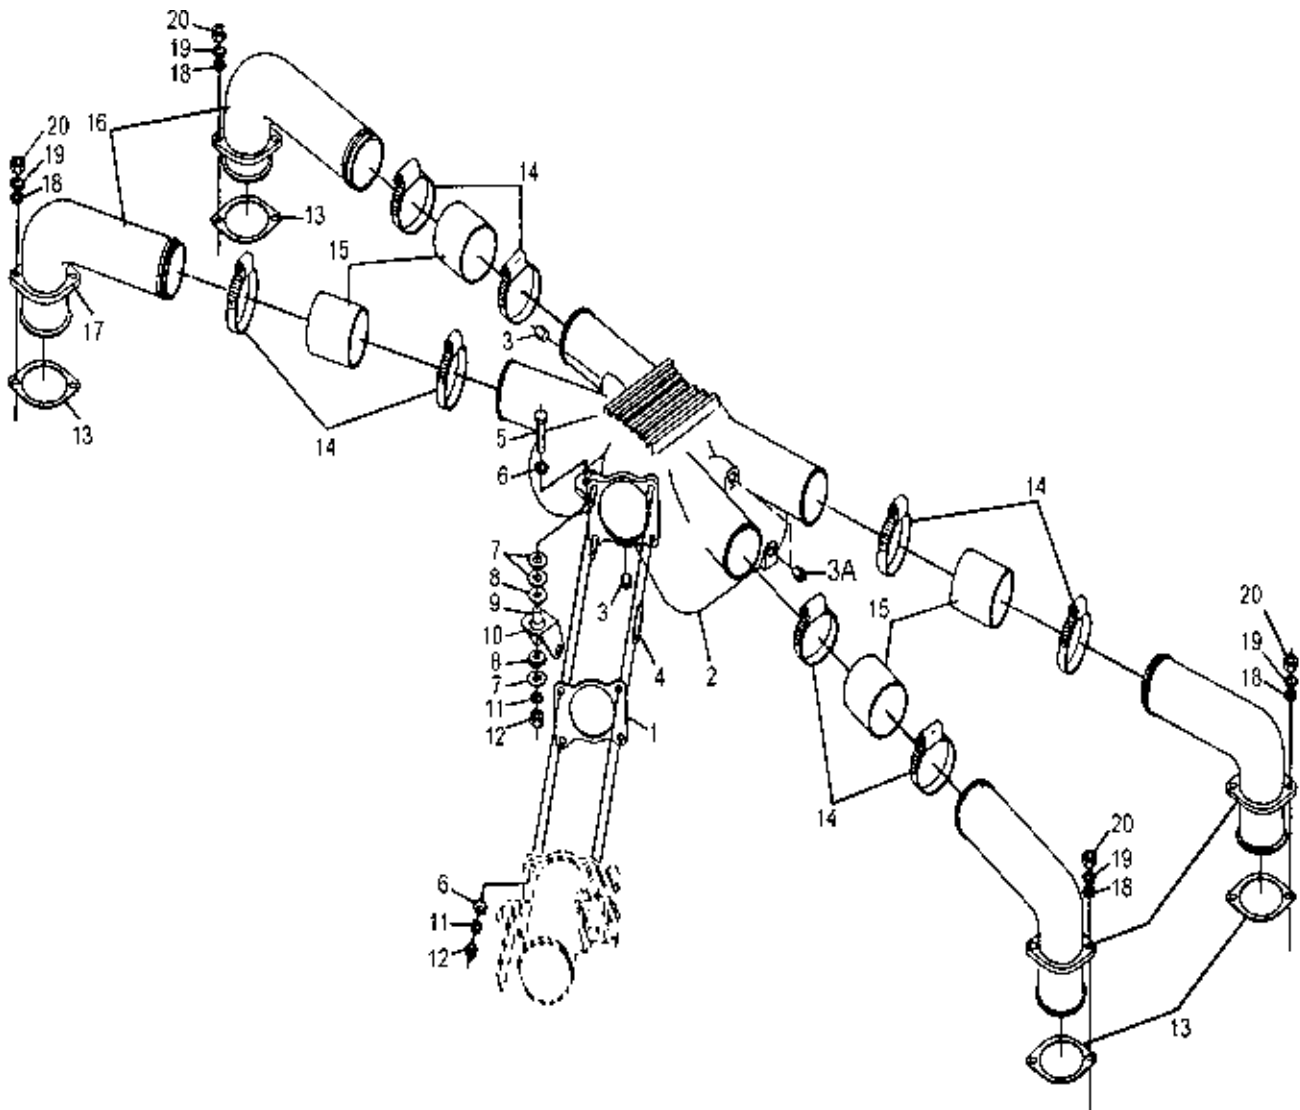

FIGURE 2
- (4) With the throttle lever in the closed position, insert the P/N 656837 drill guide template into the induction end of the Throttle and Control Assembly, matching the angle of the template to the angle of the throttle plate. (Reference Figure 2)
- (5) Use drill guide hole as shown in Figure 2 to drill through the throttle plate using the P/N 656742 twist drill. A slight downward pressure on the drill template will keep the template properly seated against the throttle plate during the drilling operation. After the drilling procedure is completed remove all burrs, metal shavings and contaminants.
- (6) Reinstall the throttle and control assembly using a new P/N 653900 gasket in accordance with the procedures contained in the overhaul manual. Torque the retaining nuts to 90-100 In-LBS, using 50 weight engine oil as thread lubricant.
- (7) Restore electrical power to the aircraft and open the fuel supply valve. Using the boost pump, leak check the fuel system. Correct any discrepancies before the engine is operated.